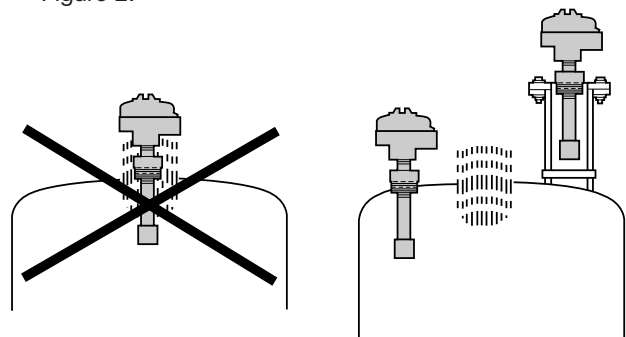

Figure 2
4. Avoid installing the sensor in tank top openings that exhaust heated air or vapors. The boundaries between the vapors and the outside air often represent acoustic impedance gradients that can cause troublesome sound reflections. In those installations, the sensor should be mounted well away from the opening inside the tank, or in a pipe stub as illustrated here. Refer to Figure 2.